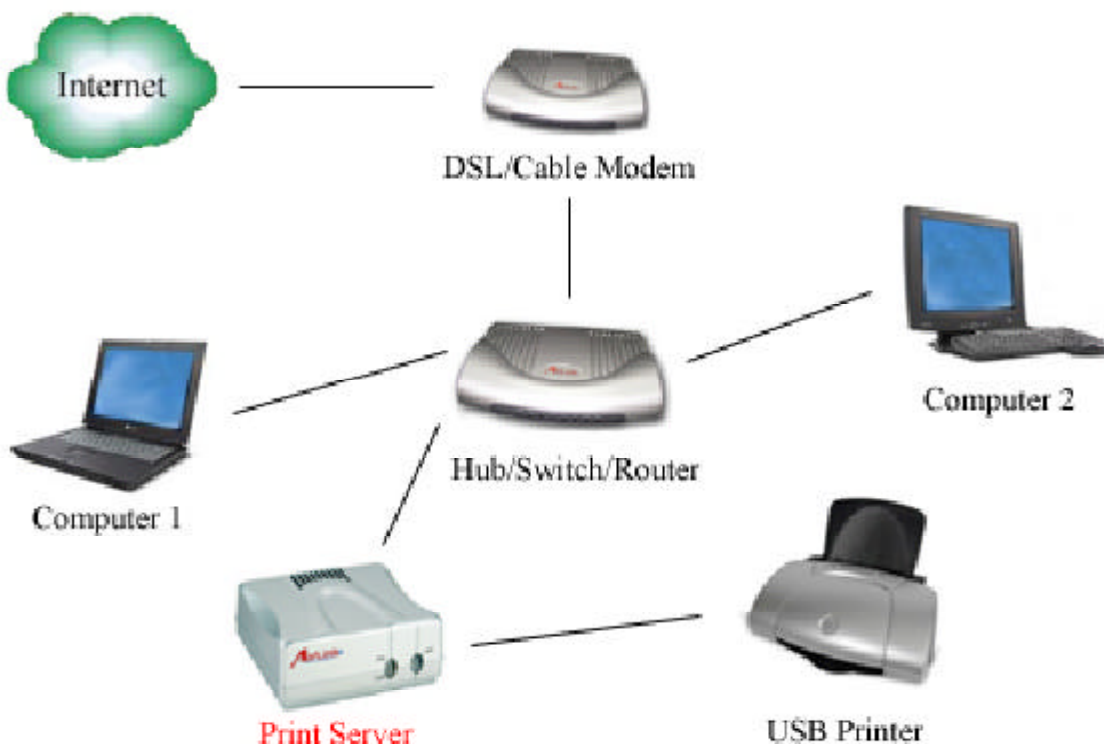

Fig. 1.1
Step 1 Connect one end of the Ethernet cable to the RJ-45 port of the Print Server and attach the other end of the cable to a hub/switch/router. See *Fig. 1.1*